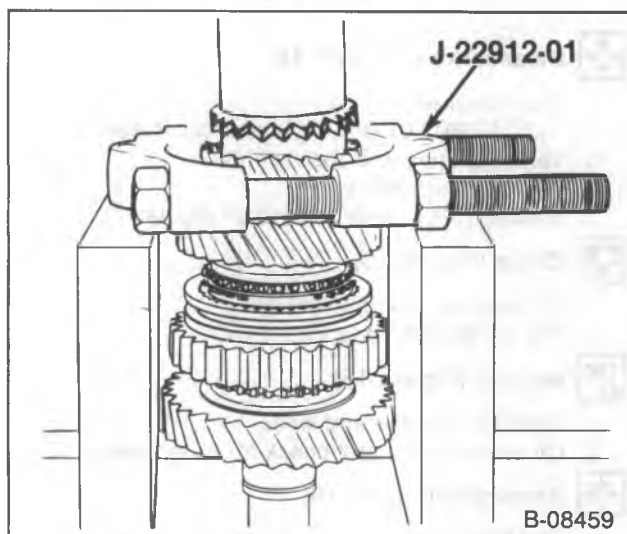

Figure 20—Removing the 5th Speed Driven Gear
3. Remove the snap ring and the 2nd speed gear thrust washer (666).
4. Remove the 2nd speed gear (667) and blocker ring.
5. Press the mainshaft through the 5th speed driven gear (679) using J 22912-01 (figure 20).
6. Mainshaft rear bearing (678).
- It may be necessary to press the mainshaft through the bearing using J 22912-01 (figure 20).